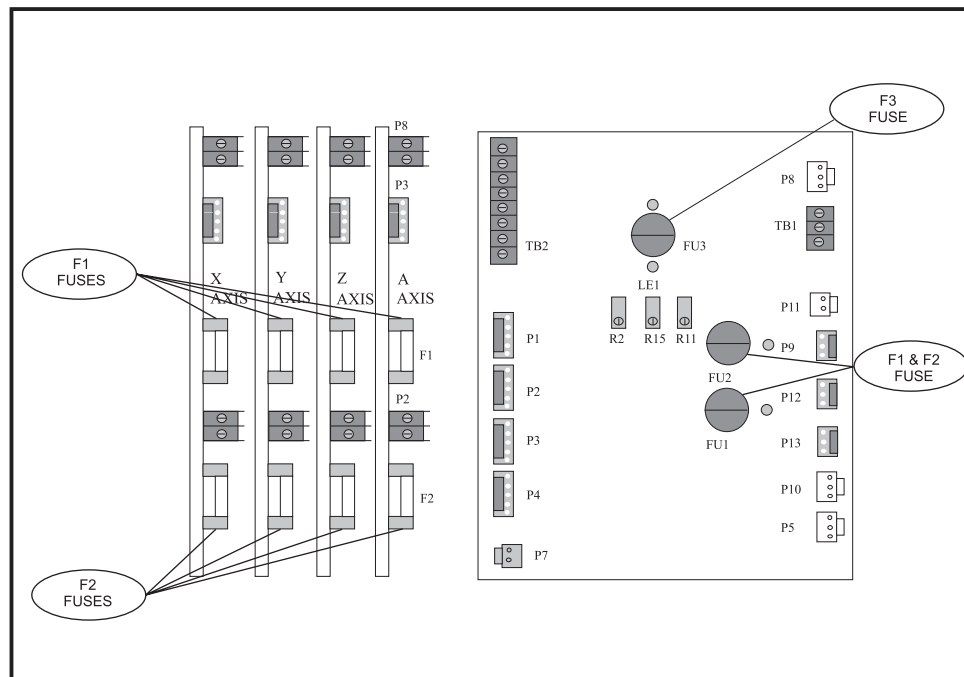

Figure 4-13. Servo Drive Assembly; fuse locations
3. On the SERVO DRIVE ASSEMBLY, there are three fuses on the SDIST panel, and three individual fuses on each of the SERVO DRIVE boards (See Fig. 4-13; the F3 fuses are not shown).